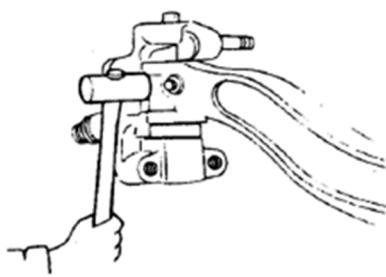

Figure 3-14.
- 6) Using copper hammers and copper sticks to remove the swivel axis (Figure 3-14).